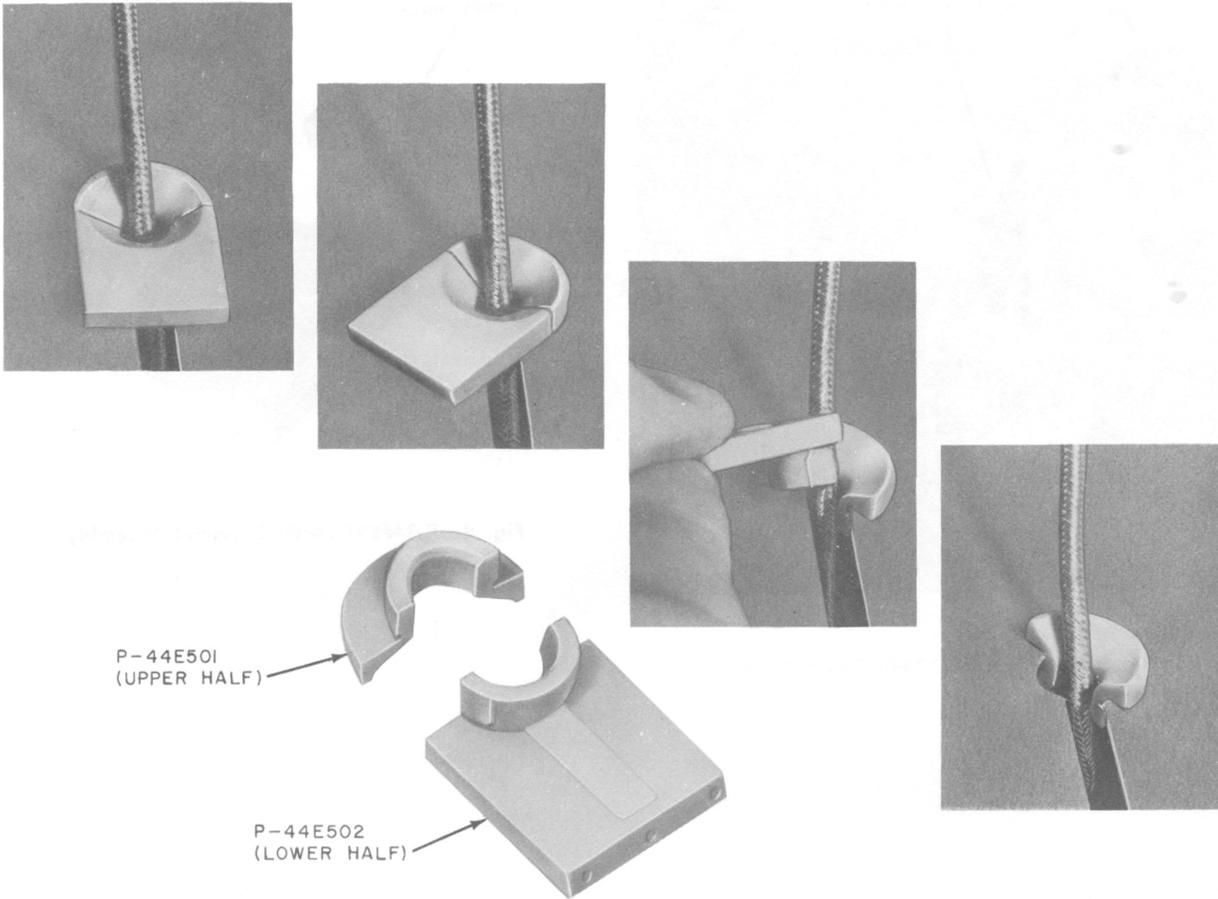

Fig. 5—Removal of Handset Cord Grommet
(1) Grasp mat retainer frame at top, lift upward and out to release frame from panel of set.
(2) Remove handset from hook of set.
(3) Pull out handset cord to allow working slack.
(4) Remove mat from face of panel.
(5) Remove grommet from mat as shown in Fig. 5.
(6) Install grommet in new mat by reversing procedure used in removal.
(7) Position mat on panel and secure using the mat retainer frame.